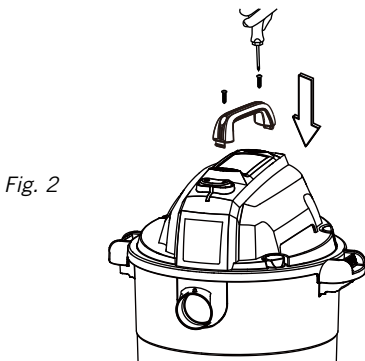

Fig. 2
- Insert the handle **9** into the slots located on the top of the power head **2** and secure it with the screws **10** provided. Do not over-tighten screws **10**. **Fig. 2**.